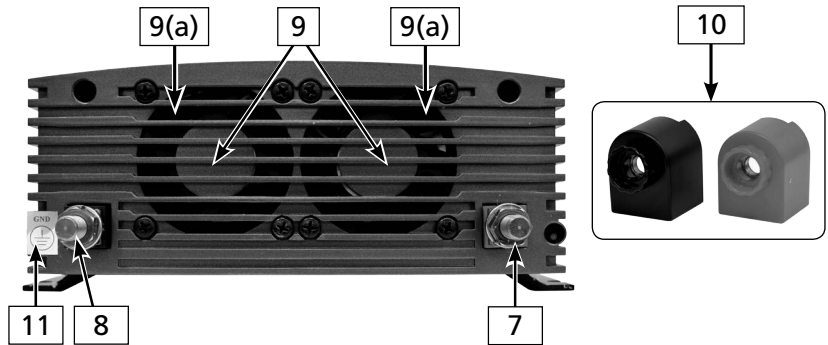

Fig 3.2.2 Back of the unit
- b) **SSW-1000-12A, SSW-1500-12A and SSW-2000-12A:** Stud and nut – size M9 (7, 8 in Fig 3.2.2). Accepts Ring / Tongue Terminal Lugs for M9 or 3/8" stud size
The inverter side of the DC input cable has to be terminated with a Ring / Tongue type of terminal lug to fit M9 or 3/8" size of stud on the DC Input terminal (7, 8 in Fig 3.2.2). The terminal lug may be crimped / soldered.